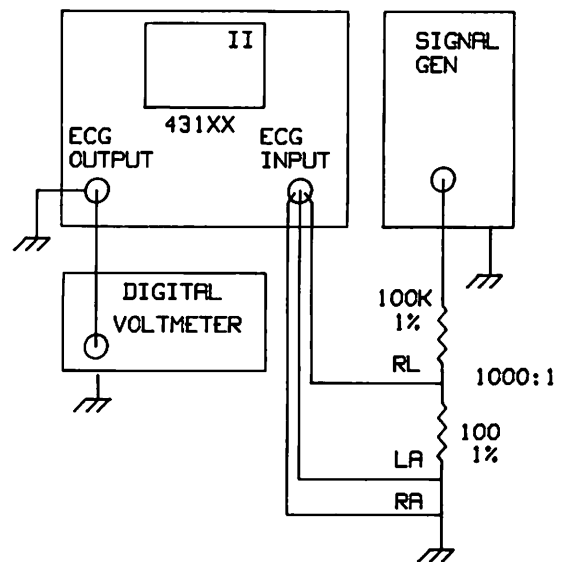

Figure 3-4. ECG Gain Test.
- Connect test equipment as shown in Figure 3-4.